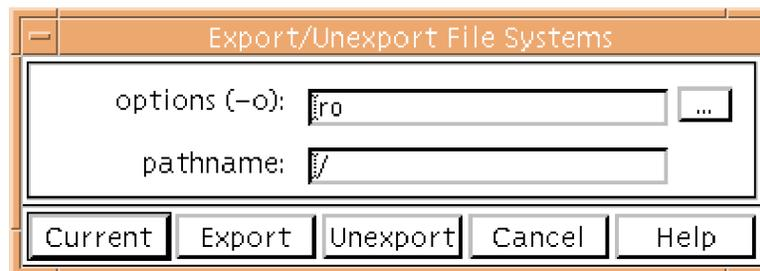

Figure 12. Export/Unexport File Systems Window
Used to export or unexport a file system in order to allow or deny file system sharing. Select the `EXPORTFS` option to open the `Export/Unexport File Systems` window (Figure 12).
- STEP 1: Select a file system.** Click on a file system in the list in the Disk Manager window to highlight it and then click on the EXPORTFS button. The Export/Unexport File Systems window appears (Figure 12).